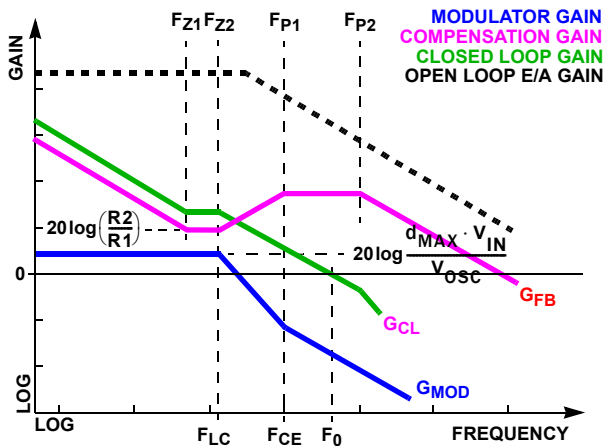

FIGURE 25. ASYMPTOTIC BODE PLOT OF CONVERTER GAIN
Figure 25 shows an asymptotic plot of the DC/DC converter's gain vs frequency. The actual Modulator Gain has a high gain
peak dependent on the quality factor (Q) of the output filter, which is not shown. Using the above guidelines should yield a compensation gain similar to the curve plotted. The open loop error amplifier gain bounds the compensation gain. Check the compensation gain at  $F_{P2}$  against the capabilities of the error amplifier. The closed loop gain,  $G_{CL}$ , is constructed on the log-log graph of Figure 25 by adding the modulator gain,  $G_{MOD}$  (in dB), to the feedback compensation gain,  $G_{FB}$  (in dB). This is equivalent to multiplying the modulator transfer function and the compensation transfer function and then plotting the resulting gain. A stable control loop has a gain crossing with close to a -20dB/decade slope and a phase margin greater than  $45^\circ$ . Include worst case component variations when determining phase margin. The mathematical model presented makes a number of approximations and is generally not accurate at frequencies approaching or exceeding half the switching frequency. When designing compensation networks, select target crossover frequencies in the range of 10% to 30% of the per-channel switching frequency,  $F_{SW}$ .